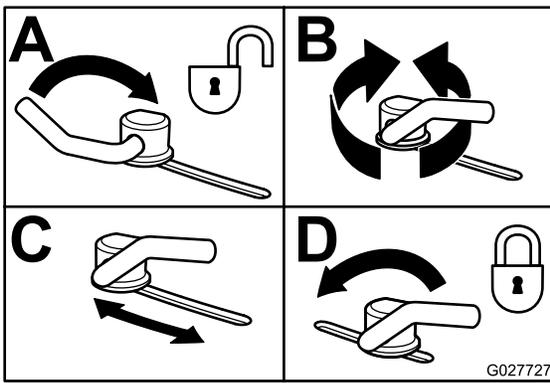

Figure 30
- To adjust the cam locks, swing the lever up to loosen the cam lock (Figure 30).
- Swing the lever back over to tighten the baffle and cam locks (Figure 30).